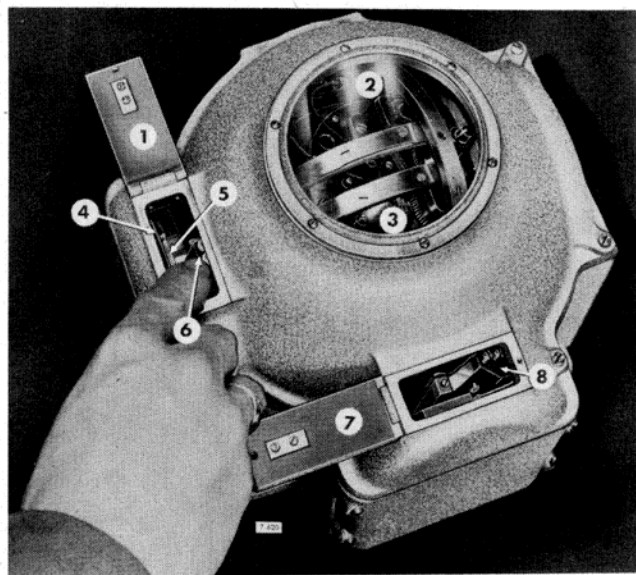

Figure 277—Hinged Covers Provide Access to Gyro Pot Without Removing Housing Cover
(4) Rotate the turn control knob and cam to the opposite side of the turn control; then rotate it back until the cam just hits the zero stop on the opposite side of the center position.
(5) If the ohmmeter reads zero, the cam is properly adjusted and needs no further attention.
(6) If the ohmmeter indicates a resistance, divide this value in half, loosen the set-screws on the cam, and, while holding the cam on the zero stop, turn the turn control knob until the ohmmeter reads half of the value, as indicated previously.
(7) Tighten the two set-screws holding the cam to the shaft. The unit is then in proper adjustment.
b. Clean off the top of the vertical flight gyro and open the access door above the elevator pot. Taking care not to drop any dust or dirt into the unit, place the index finger on the bakelite block which supports the pot wiper. (Be careful not to bend the pot wiper blade.) Apply pressure toward the nose of the airplane to precess the top of the gyro slowly to the right. (See figure 277.) As gyro tilts, one tell-tale light in each axis should flash on and off repeatedly, and aileron and rudder controls will move into posi-
c. If, during this test, the opposite light in any axis flashes, or if any control reverses its movement, the corresponding pot is dirty and should be cleaned immediately, according to the following instructions (see figure 277):
(1) Slightly dampen a clean white lint-free cloth (or aircraft linen) with a small amount of WHITE gasoline (or alcohol) and then wrap cloth around index finger. (Gasoline must be used very sparingly.) DO NOT USE ANY COLORED GASOLINE. Carefully clean the portion of the pot (4) not covered by the wiper (5). Rub pot crosswise or in a direction parallel to the wire windings. Be sure not to disturb or bend the wiper while cleaning the pot. Immediately remove the gasoline and residue by rubbing the pot with a clean, dry, lint-free cloth.
(2) Move wiper blade supporting block to other end of the pot. Clean the balance of the pot with the gasoline-dampened cloth and then wipe with dry cloth. Close inspection door and tighten screw holding it in place. Be careful that the cover gasket lies flat and seals properly.
(3) Open inspection door (7), move bakelite wiper supporting block (8) to end of the three pots, and repeat operations (1) and (2) on the three pots. Close cover and fasten.
(4) Observe condition of cover glass (2). If it is cracked or broken, remove the Gyro from the airplane and clean thoroughly. If there is reason to believe that dust or dirt may have got into the bearings or otherwise impaired the operation of the gyro, send it to a fourth echelon repair station for overhaul.